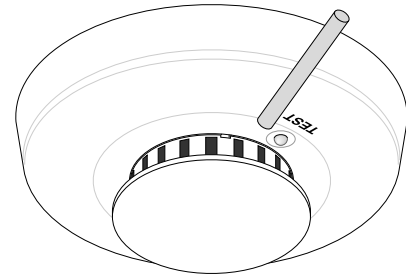

Figure 5 - Test Magnet Placement
1. Hold the test magnet up to the raised TEST letters on the top of the detector for 2 seconds. See Figure 5. Once the test starts, the alarm LED flashes one to nine times.